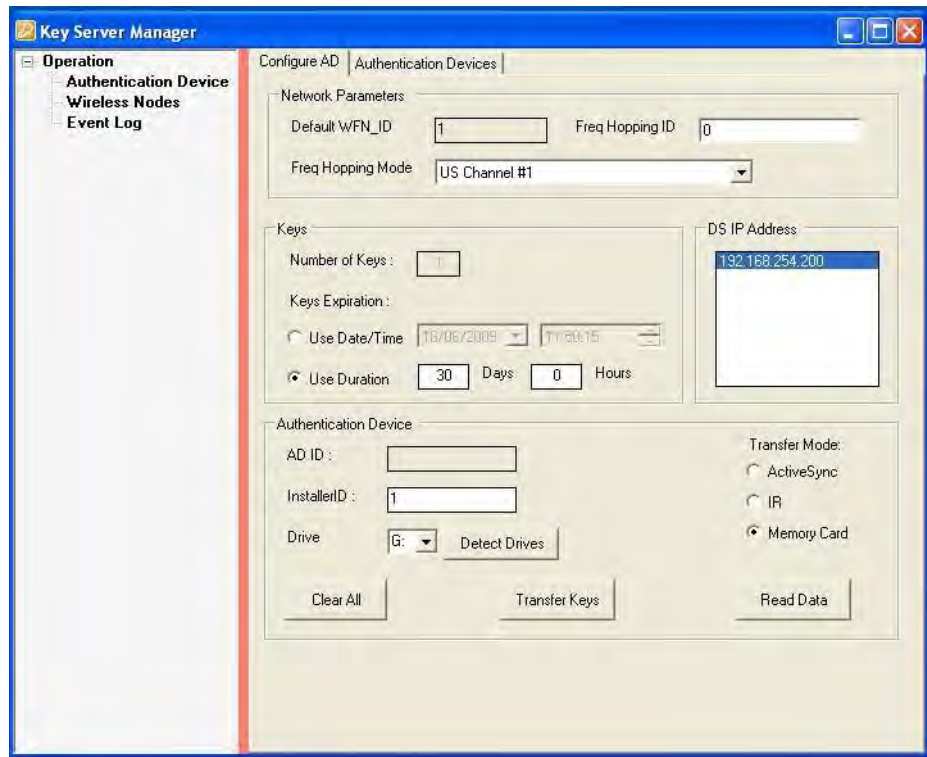

FIGURE 7-5 Sample screen of the Key Server Manager
2. Use the KSM to write security information to a memory card. See the Key Server Manager manual for instructions on how to use the key server. For a sample screen, see FIGURE 7-5.